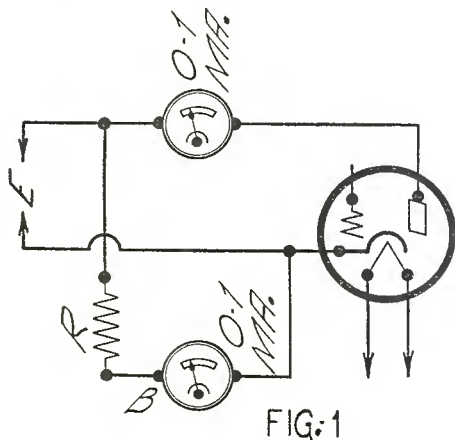

FIG:1
Fig. 1 shows a milliammeter (A) connected in series with a line, and a similar milliammeter in series with a resistor R connected across or in parallel with the line. Instrument A measures the total load current, for example, the plate current of a tube. Instrument B measures the current flowing through the resistor R and itself, the current